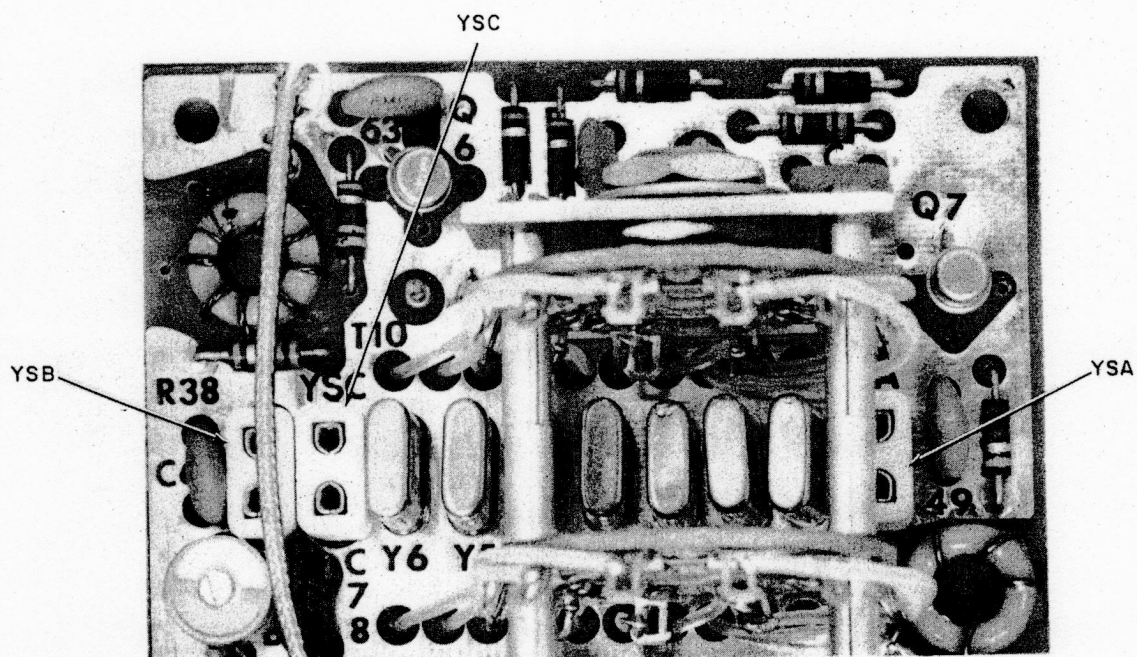

Figure 4-23. Location of Sockets for Optional Crystals
a. Install the applicable crystal listed in table 4-7 in the applicable Front End board socket shown in Figure 4-23.